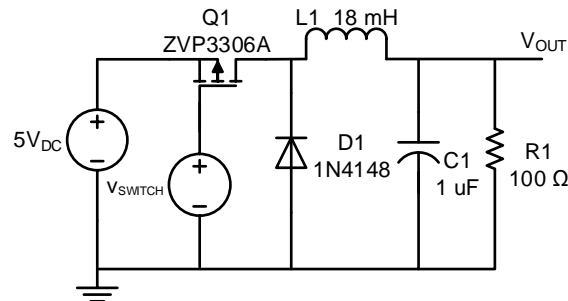

Figure 2. A constant load, open feedback switch-mode power supply
The buck converter that you will build in the lab is shown in Figure 2. It will not have a feedback control system and will operate at a constant load. In this lab, you will vary the duty cycle and observe the effect on the output voltage. You will also vary the load with the duty cycle held constant.
Question 1: Simulate the circuit in Fig. 2 in LT SPICE for $v_{\text{SWITCH}} = 0\text{--}5\text{V}$ rectangular wave at 25 KHz. Set the v_{SWITCH} symmetry so as to cause the PMOS transistor to operate at duty cycles of 20%, 50%, and 80%. Remember that the PMOS transistor is on when v_{SWITCH} is 0V. Show your waveforms for each simulation run (20%, 50%, and 80%) showing v_{SWITCH} , i_L , i_C , v_{OUT} for just a couple cycles of v_{SWITCH} in steady-state. Note that it will take about 1 millisecond for the circuit to reach steady-state.
2. Construct the circuit shown in Figure 2. Connect the oscilloscope to measure the averaged DC output voltage v_{OUT} and the control signal v_{SWITCH} .